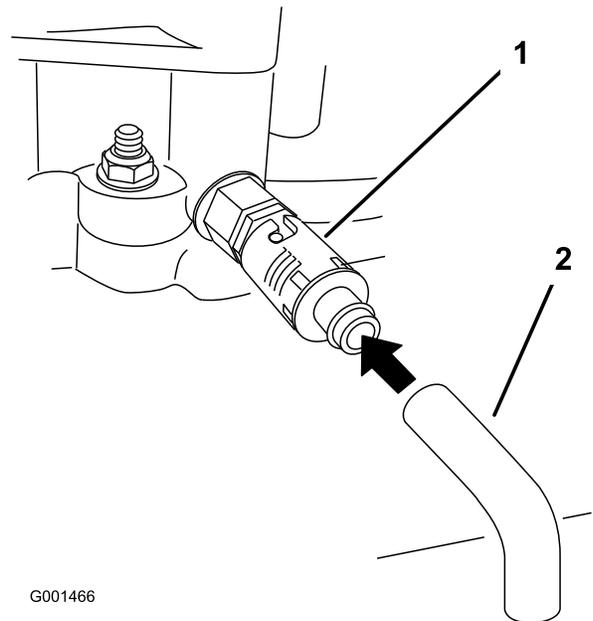

Figure 30
5. Place a pan below the drain hose. Rotate oil drain valve to allow oil to drain (Figure 30).
7. Remove the drain hose (Figure 30).